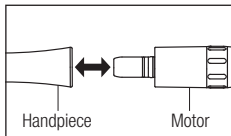

Fig. 1
- 1) Insert the handpiece directly into the motor (Fig. 1).
Hold the motor and the handpiece, then pull apart (Fig. 1).